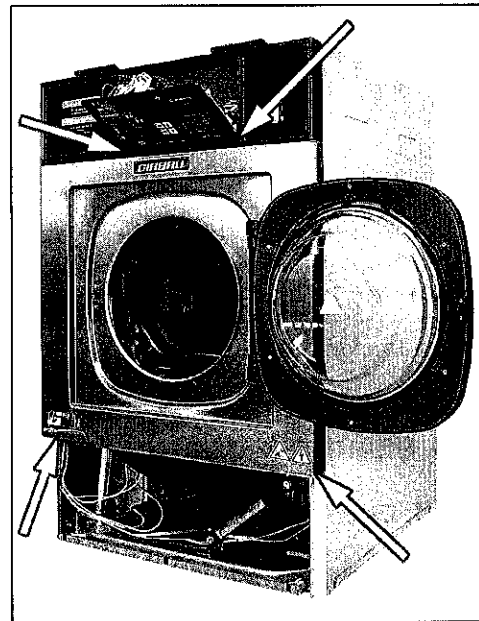

fig.6
- Take out the four Torx screws that fasten the front panel of the washing machine and remove it from the machine. The location of the screws is indicated by means of the arrows in (fig. 6).